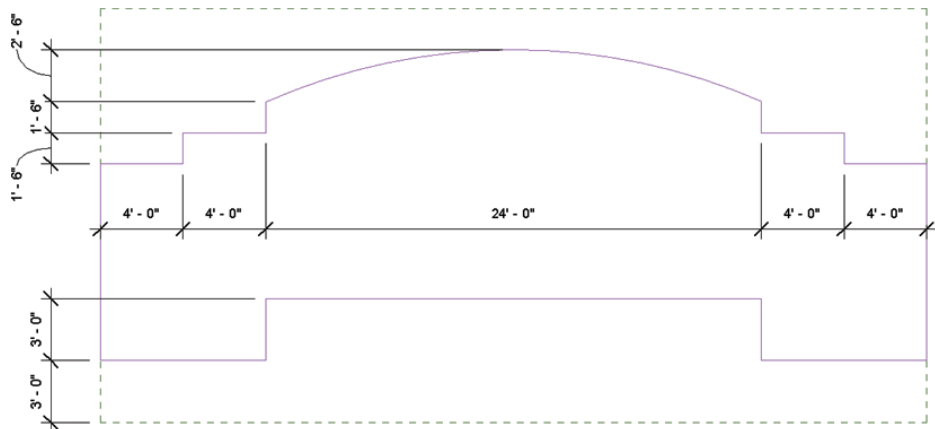

FIGURE 2.13 Edited wall profile
1. The starting file should open to the default 3D view. Select the wall and click Edit Profile. Modify the profile sketch as shown in Figure 2.13. Don't forget to trim and delete unnecessary sketch lines. Then finish the sketch.